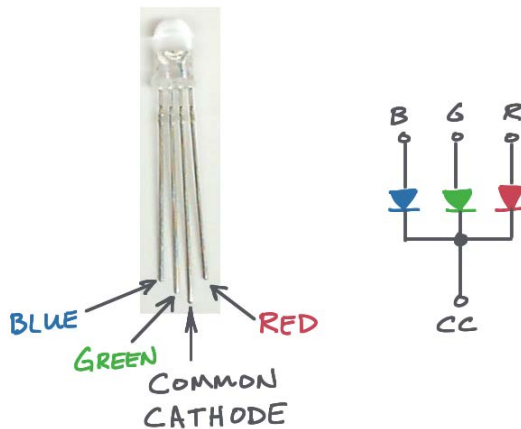

Figure 2.3: RGB LED pins and schematic diagram.
3. Blink the green and blue LEDs of the RGB LED using the same LabVIEW code as the railroad crossing signal; refer to Figure 2.3 on the following page for the RGB LED pinout diagram. Use the current-sourcing interface circuit.